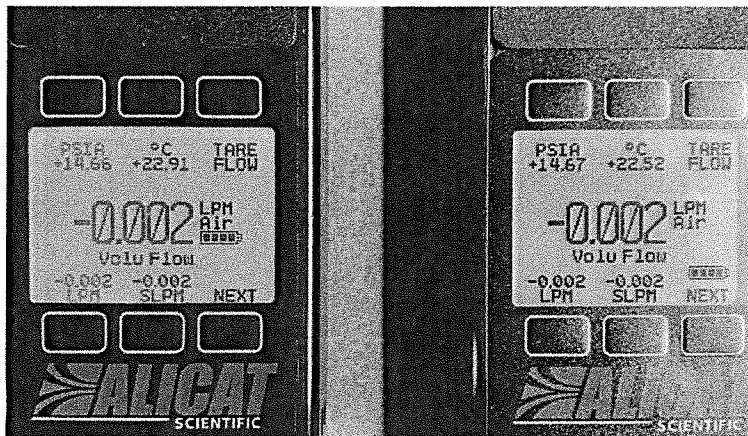

Figure 2. Main Display
- Collecting real time temperature, pressure, and flow data (Figure 2)